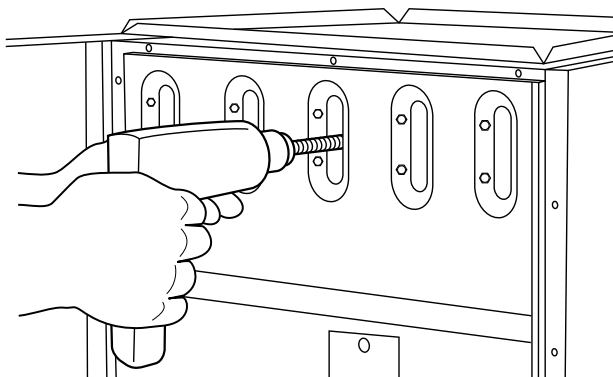

Fig. 58 – Cleaning Heat Exchanger Cell
- (2.) Insert brush end of cable into the outlet opening of cell and slowly rotate with drill. **DO NOT** force cable. Gradually insert cable into upper pass of cell. (See Fig. 58).